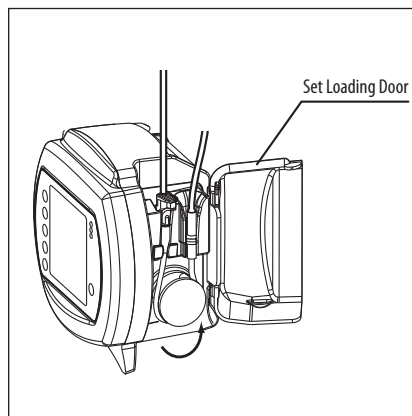

Figure 6B.
3. Grasp the MISTIC retainer end (black ring retainer) and wrap the tubing counterclockwise around the rotor. (Figure 6B)
4. Carefully pull the MISTIC retainer end upwards to position it over the slot on the right, and then lower the retainer into the slot. (Figure 6B)